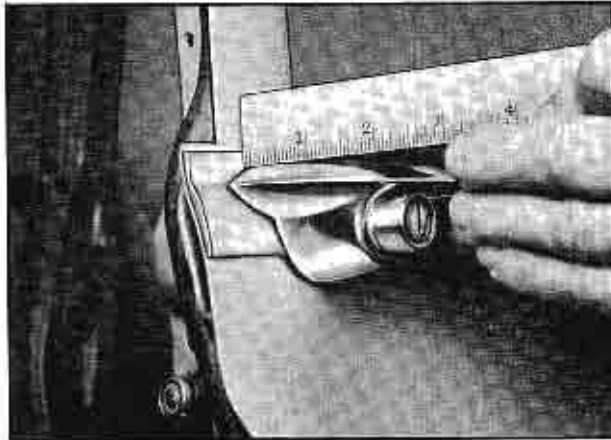

Fig. 3-26 Measuring Push Button Shaft Length
4. Still holding the handle in place so the shaft is just making contact in the lock, measure the distance between the door outer panel and lock handle as shown in Fig. 3-26. When making this measurement, be sure the handle is held in the same relative position--at the same angle--as when it is installed on the door.